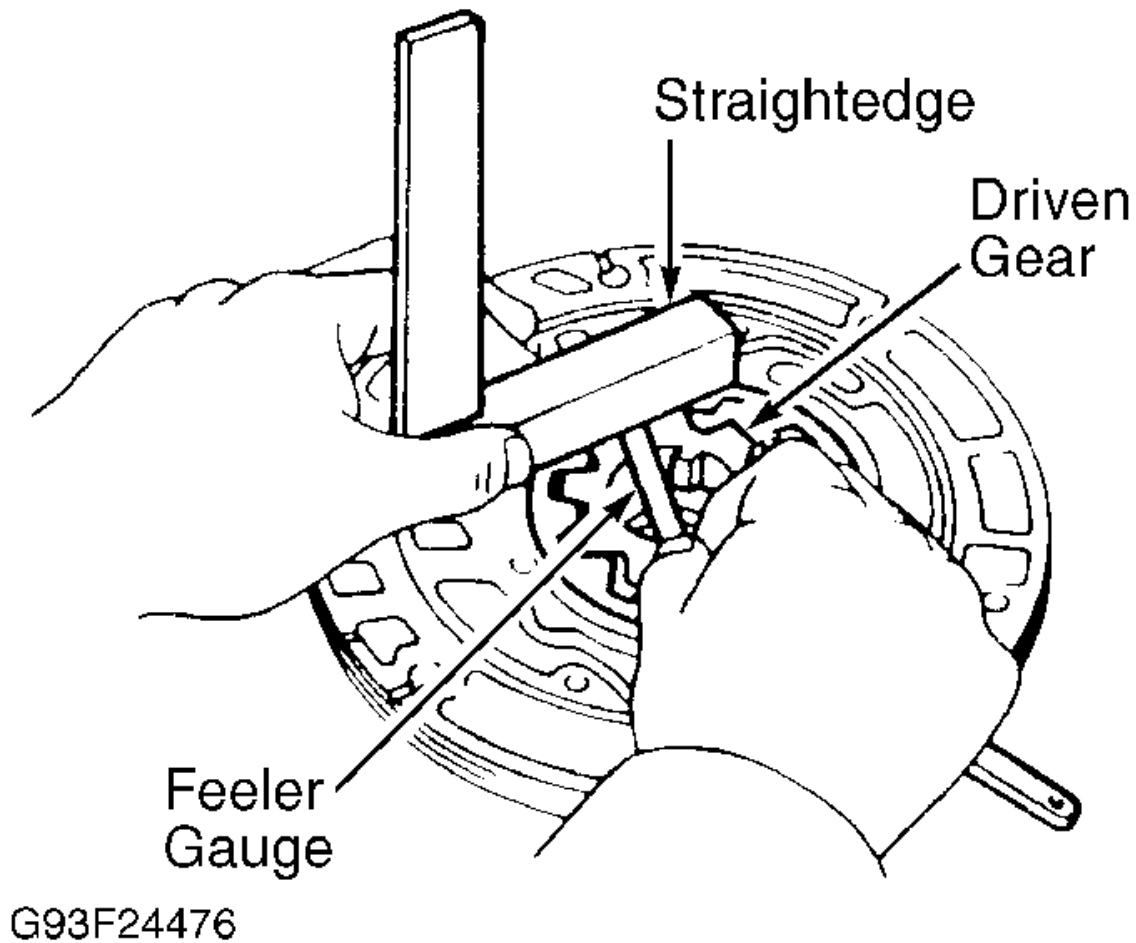

Fig. 33: Checking Oil Pump Gear Side Clearance
3. Using feeler gauge and straightedge, measure side clearance of both gears. See Fig. 33. Replace oil pump body if clearance is not within specification. See the OIL PUMP CLEARANCE SPECIFICATIONS. Gears are available in 3 different thicknesses. See DRIVE & DRIVEN GEAR THICKNESS SPECIFICATIONS.